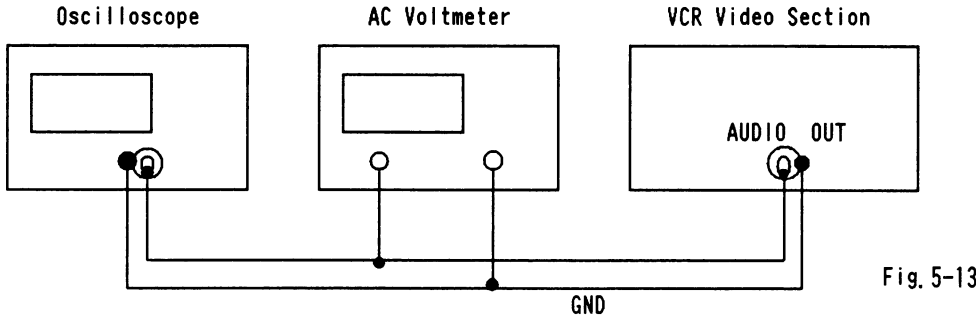

Fig. 5-13
1. Connect equipment as shown in Fig. 5-13.
Refer to Fig.5-13